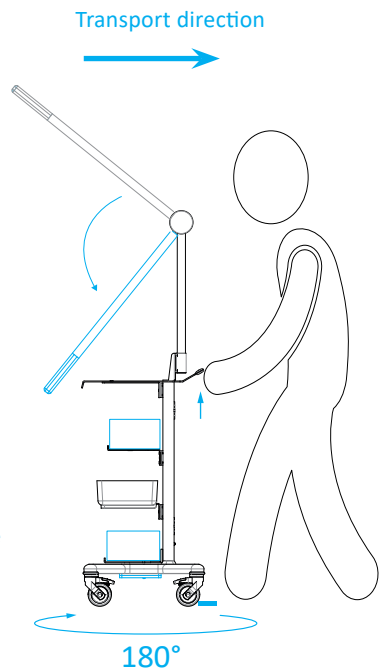

FIGURE 02
- In order to prevent the trolley from tipping over, when the trolley is passing over obstacles (e.g. power cables or door thresholds), it is necessary to hold the trolley handle, turn 180°, slightly lift the trolley upwards, and pull the trolley to pass over the obstacle as illustrated in the transport instructions figure 02 on page 06.